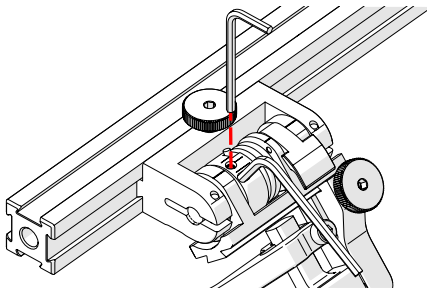

Fig. 56 - Insert hex wrenches
4. Place the 2 mm hex wrench into the force adjustment screw (Fig. 56).